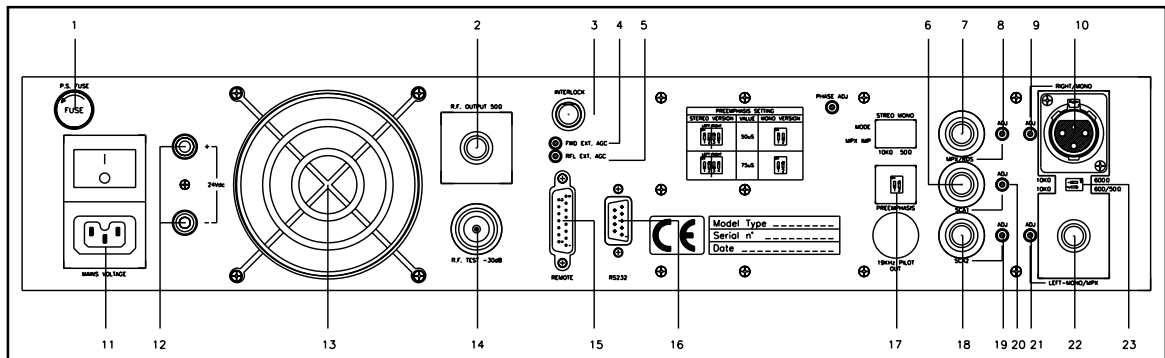

Figure 6.2
- Mono version preemphasis (switch [17] Figure 6.2):
- Mono version impedances of input (switch [23] Figure 6.2):
(switch [6] Figure 6.2):